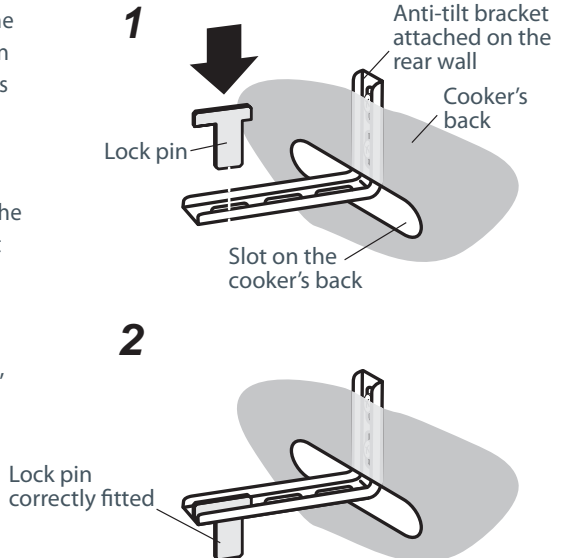

Fig. 10c Fitting the lock pin through the bracket
- Fit the lock pin through the bracket, as shown (Fig.10c).